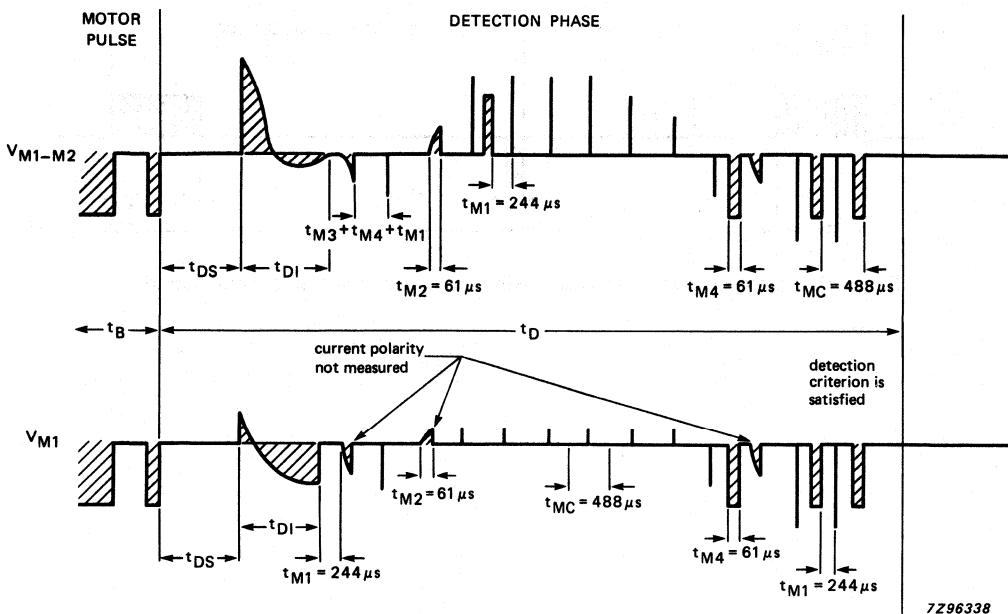

Fig. 8 Detection phase of the current waveform in Fig. 7.
- N = 3 number of measured positive current polarities since the first negative current polarity is detected after part 1 (see Fig. 8).